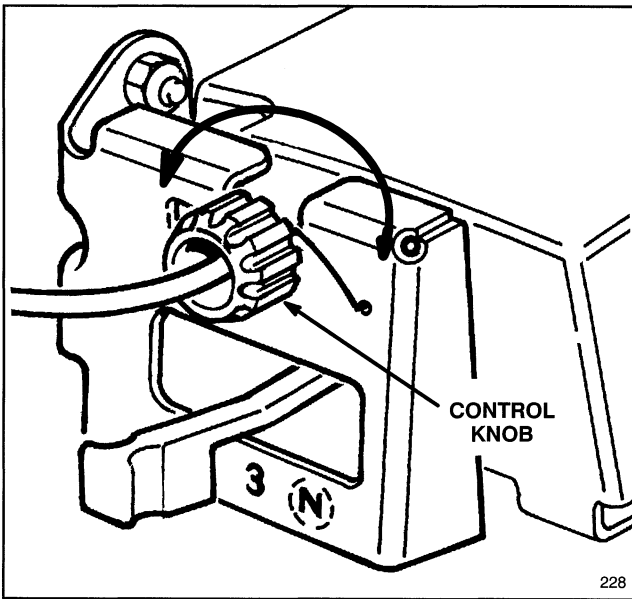

Figure 22
2. ADJUSTMENT (Fig. 22)—Rotate control knob clockwise 1/2 turn if mower does not self–propel. If mower creeps forward, rotate knob 1/2 turn counter–clockwise to loosen belt.